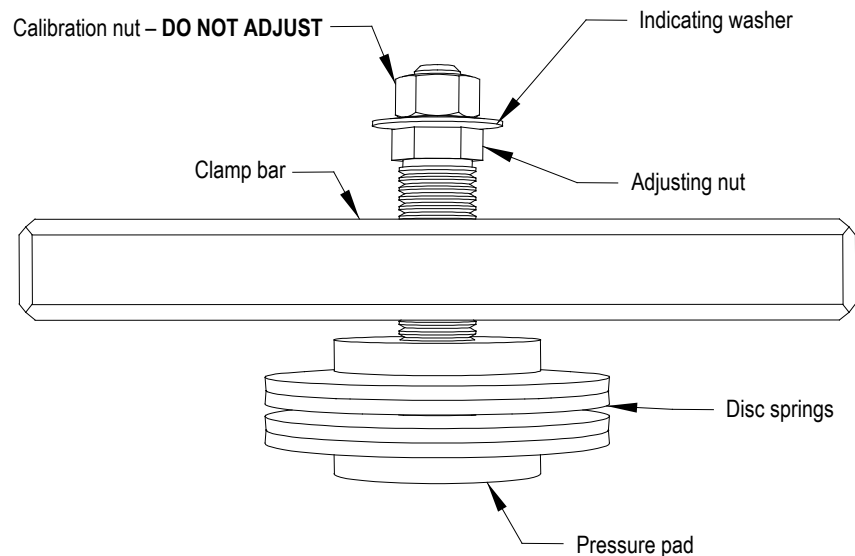

Figure 6.19 – Clamp Head Illustration
3. The heatsink with the thermal sensor must be removed from the PowerCage. Remove clamp load (refer to Figure 6.19).